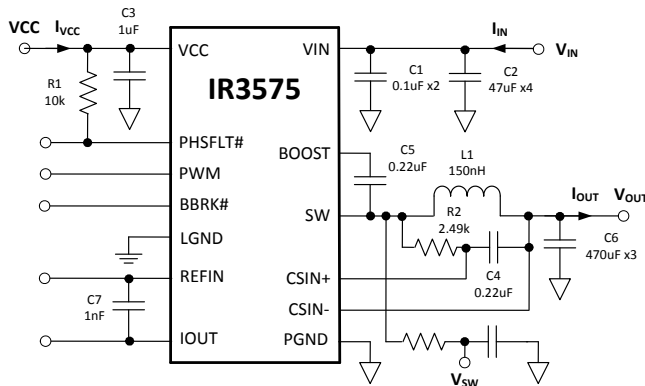

Figure 32: IR3575 Power Loss Measurement
Circuit of Figure 32,  $V_{IN}=12V$ ,  $V_{OUT}=1.2V$ ,  $f_{SW} = 400kHz$ ,  $L=150nH$  (0.29mΩ),  $VCC=7V$ ,  $T_{AMBIENT} = 25^{\circ}C$ , no heat sink, no air flow, 8-layer PCB board of 3.7" (L) x 2.6" (W), no PWM controller loss, no inductor loss, unless specified otherwise.
Circuit of Figure 32,  $V_{IN}=12V$ ,  $V_{OUT}=1.2V$ ,  $f_{SW} = 400kHz$ ,  $L=150nH$  (0.29mΩ),  $V_{CC}=7V$ ,  $T_{AMBIENT} = 25^{\circ}C$ , no heat sink, no air flow, 8-layer PCB board of 3.7" (L) x 2.6" (W), no PWM controller loss, no inductor loss, unless specified otherwise.
The single-phase IR3575 efficiency and power loss measurement circuit is shown in Figure 32.